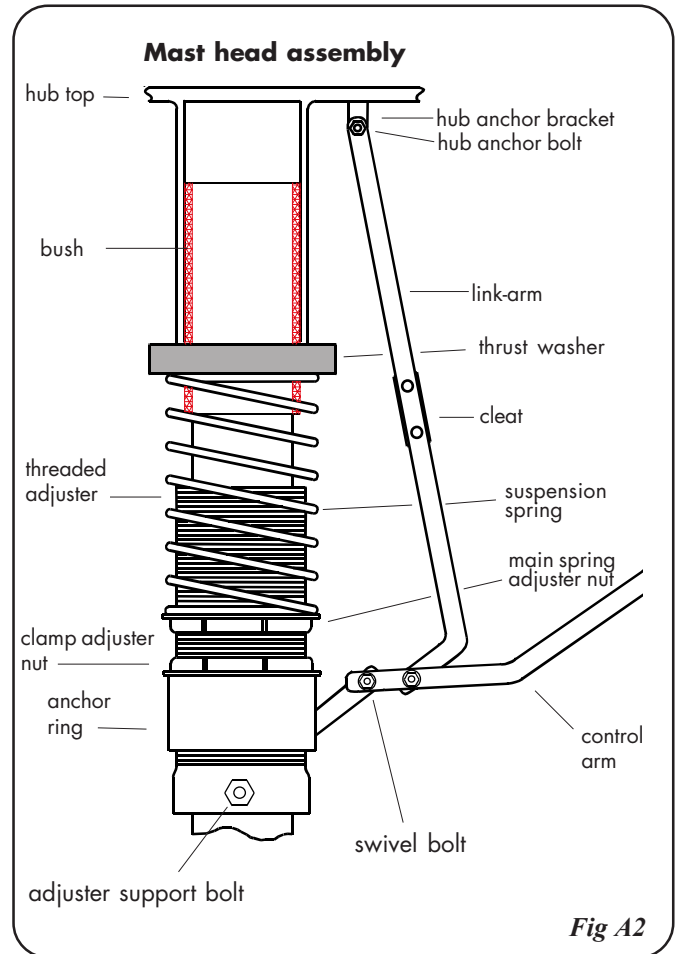

Fig A2
- 5** Wipe off surplus grease, then refit the spring & thrust washer. (See also Fig A2, p11).
1.5 Wipe off surplus grease, then fit spring & thrust washer. (See also Fig A2, p11).